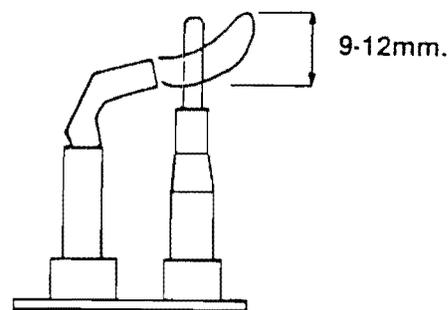

Fig. 2 Pilot flame adjustment
f) Adjust the pilot flame if necessary, (a low energy pilot is fitted, which requires the pilot adjustment screw to be screwed four full turns anti-clockwise from closed (see Figs.2 and 3)).
Disconnect the pilot tube from the pilot assembly. Remove the pilot injector by lightly tapping the side of the pilot assembly - the injector should drop out. After reassembling, ensure that the gap between the spark electrode and burner tip is 3mm approx. After servicing, check for correct pilot flame length and adjust if necessary (see Fig.2 and para.6.8.2f in Section 6).